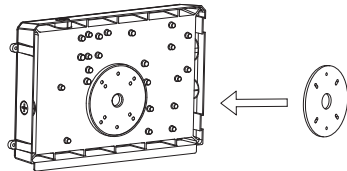

Figure 6
5. Attach the EV A cotton pad to back shell. (Figure 6)